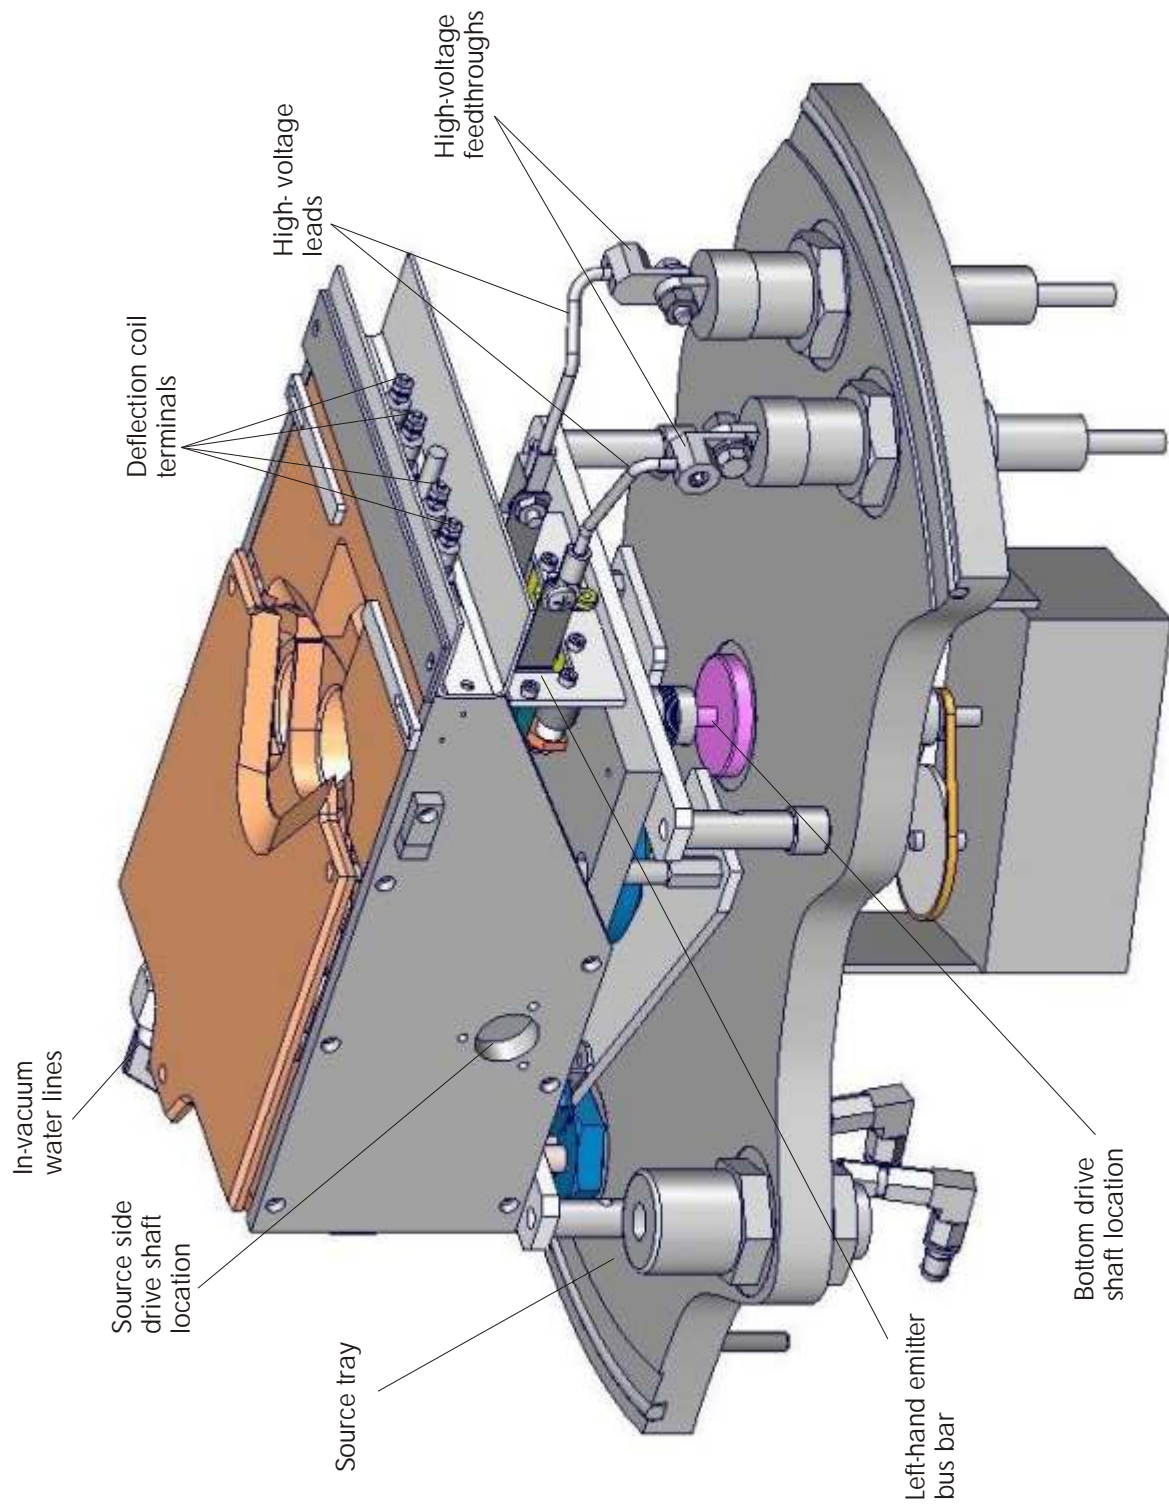
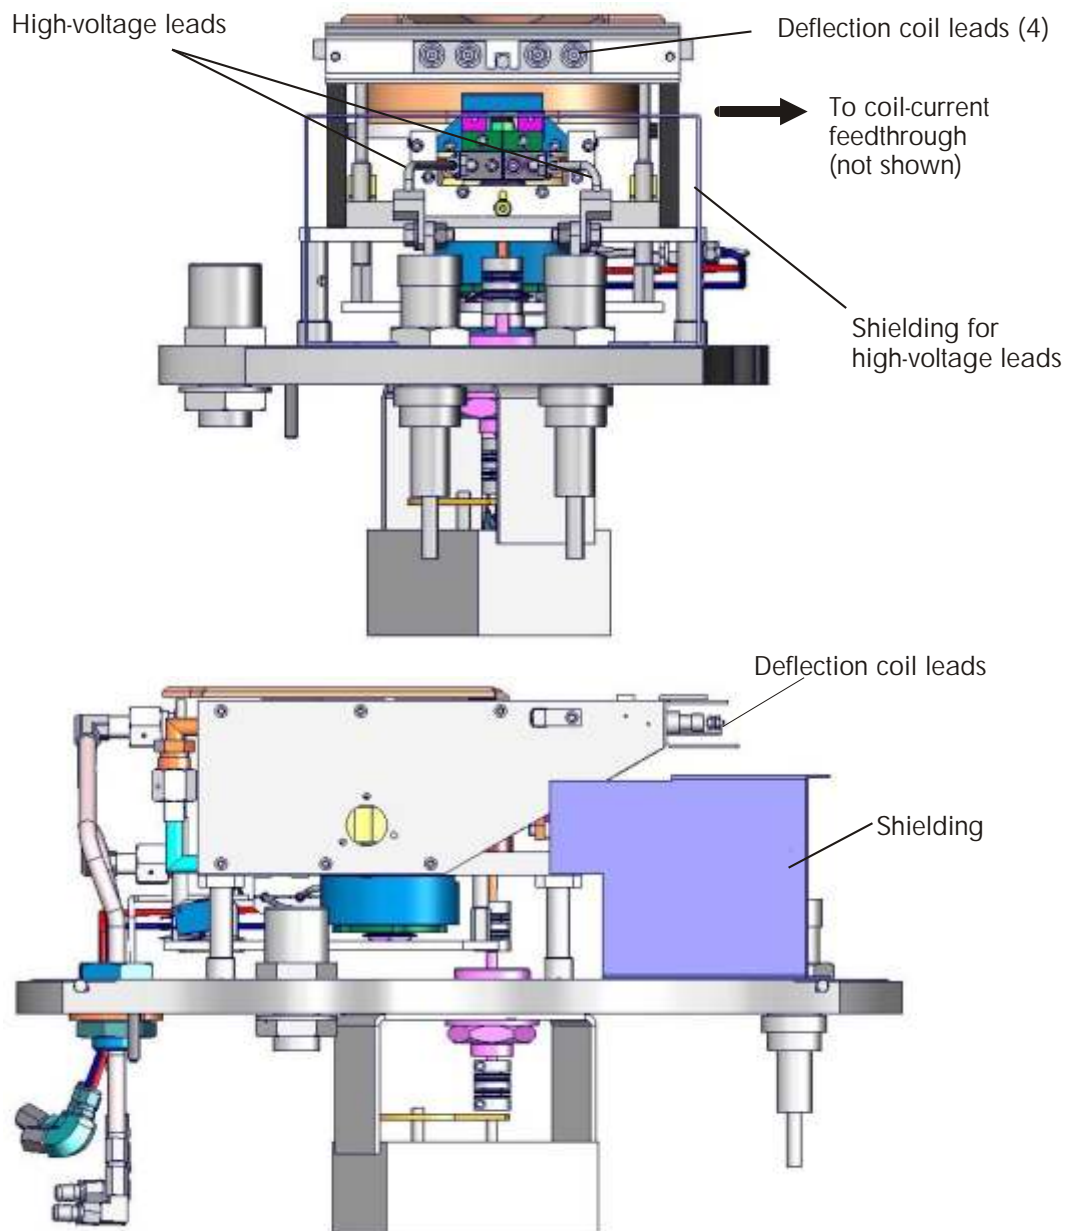

Figure 2-1. Installation Details
Figure 2-2. Correct placement of high-voltage shielding
- Some form of shielding to prevent loose material in the vacuum chamber from coming into contact with high-voltage components. Over a period of time, evaporant material accumulates on the inner surfaces of the chamber. As this material flakes off, some of it will fall onto high-voltage components unless they are shielded, resulting in severe arcing. The preferable solution is to install full debris shields, which fit tightly around the top of the source and extend to the chamber walls. If your system will not have full debris shields, then it is essential to install a smaller shield like that shown in Figure 2-2 over the high-voltage leads.
Follow the procedures described below and refer to Figure 2-1 in installing the source.
Next determine where the feedthroughs will be mounted, as their placement depends on where the source is mounted. The air/water feedthrough should be somewhere behind the source. The high-voltage feedthroughs should be mounted beside each other somewhere in front of the source, or perhaps slightly off to one side, as shown in Figure 2-1. The octal feedthrough should be mounted off to the other side of the source, ideally as far from the high-voltage feedthroughs as possible. Do NOT mount all three electrical feedthroughs in front of the source, with the octal feedthrough positioned between the two high-voltage feedthroughs. This mounting arrangement makes it impossible to isolate the coil-current leads from the effects of the high-voltage. It is critical to provide this protection for the deflection coil leads. This can be accomplished simply by mounting the octal so that the deflection coil leads run along the lower lip of the coil shield and toward the side of the gun opposite the high-voltage feedthroughs, as shown in Figure 2-1. With the leads routed this way, the coil shield provides adequate isolation from the high voltage. If the coil shield cannot be used to provide the required isolation, it will be necessary to install a stainless steel high-voltage shield like the one shown in Figure 2-2.
To ensure proper cooling, the water lines MUST be connected as shown in Figure 2-1, with the supply line connected to the gun's lower external water junction and the return line connected to the gun's upper external water junction. The crucible will not be cooled adequately if these connections are reversed.
2. Connect the gun's drive shaft to the rotary feedthrough's output (i.e., vacuum-side) shaft. On side-drive sources, you may need to add an extension shaft like that shown in Figure 2-1 between the gun's drive shaft and the rotary feedthrough. Connecting a side-drive source to a rotary feedthrough mounted in the source tray will require a right-angle coupling. In all other cases, use a flexible in-line coupling (PN 9015-0121-0) to connect the shafts.
1. If your source tray is not fitted with full debris shields, install a shield that will cover the in-vacuum high voltage leads and as much of the emitter assembly's filament bus bars as possible (see Figure 2-2). This shield should be made of type-304 stainless steel, and it should be placed so that no part of it is closer than 1/4" to either of the high-voltage feedthroughs. There should be no grounded components within the shielded area.